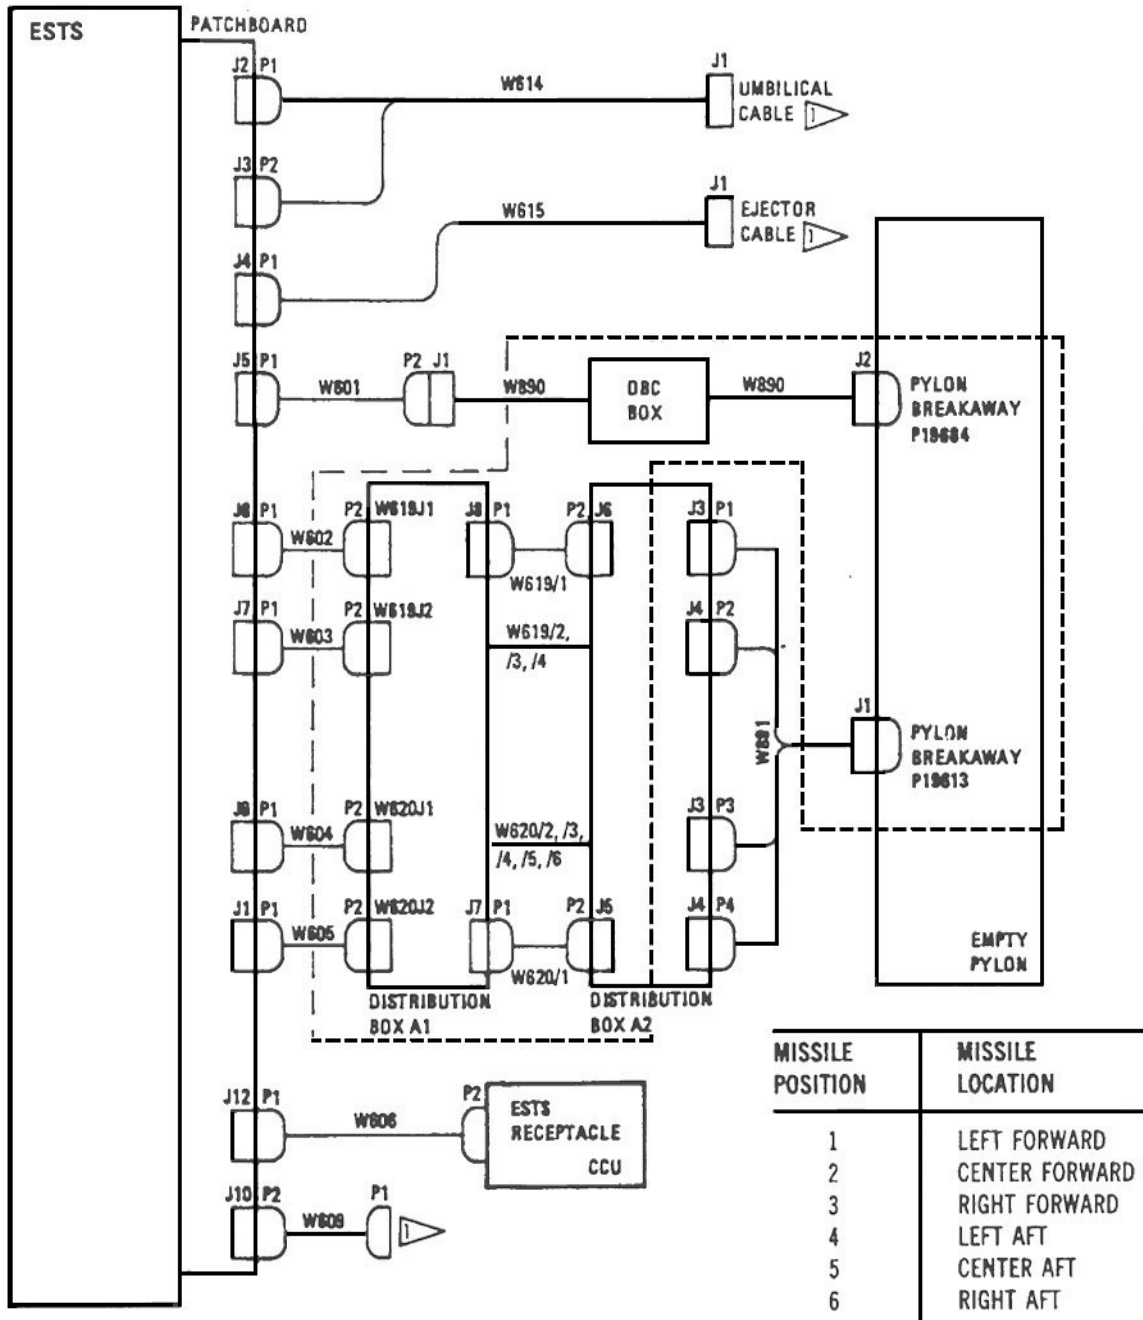

Figure 4-28. Empty pylon test hookup.
These diagrams show pylon and launcher test connections and are provided for each test configuration. Hookup diagrams (fig. 4-28) are a form of wiring diagram that depicts individual wire runs between test components. Component connector jacks (J) and their associated cables (W) and plugs (P) are also identified.